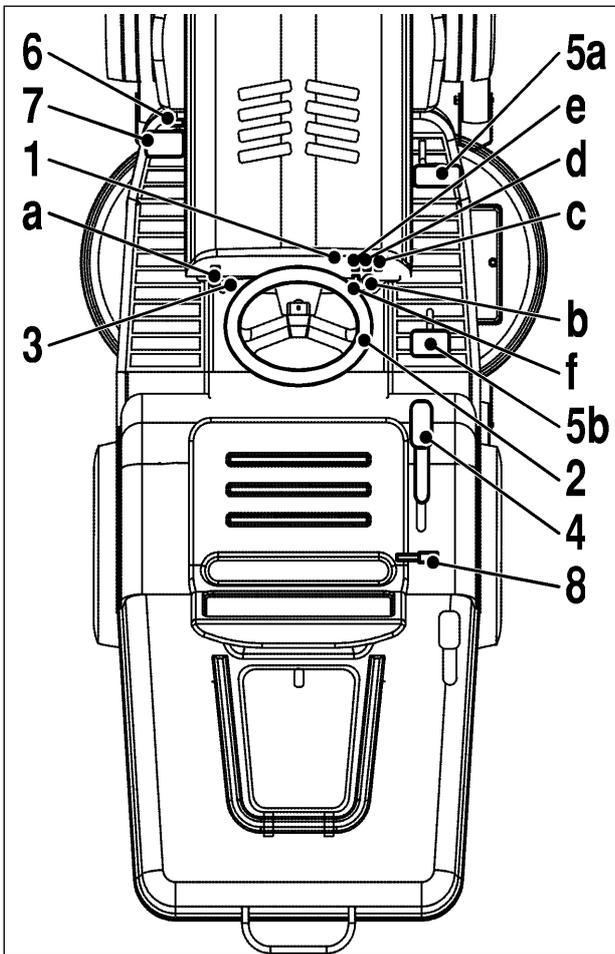

Fig. 11
1. Dash panel (fig. 11)
OPERATION AND DESCRIPTION (FIG. 11)